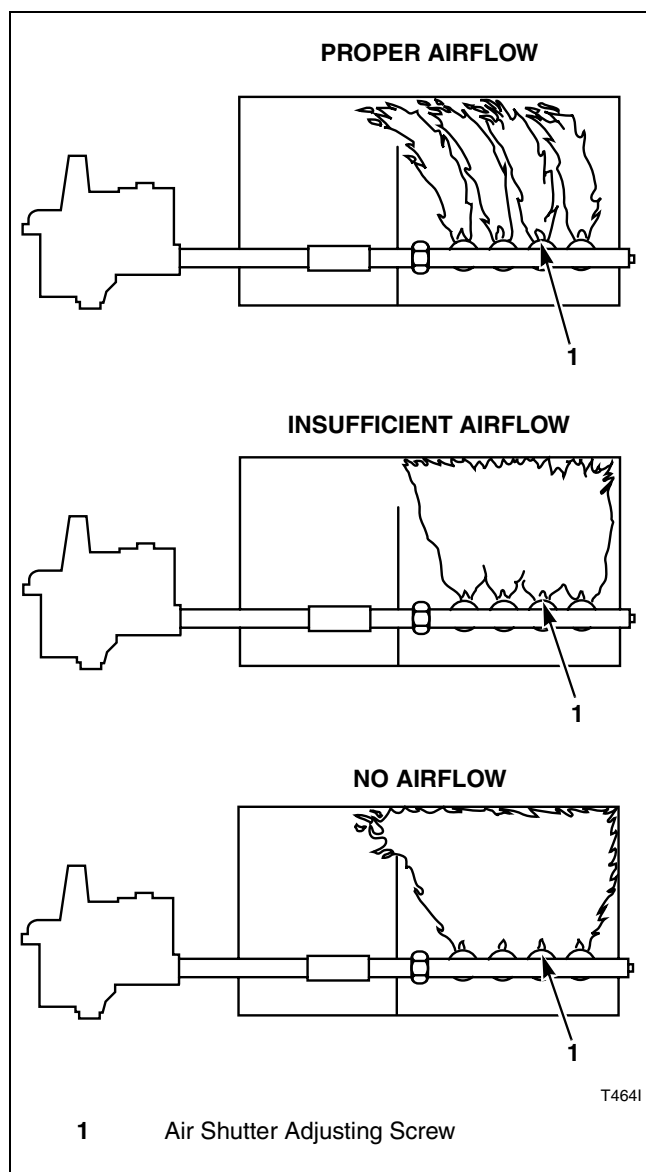

Figure 20
2. Start the tumbler and check the flame pattern. Correct air and gas mixture is indicated if the flame pattern is primarily blue, with small yellow tips, and bends to the left of the heater section (refer to *Figure 20*). Too little air is indicated if the flame is yellow, lazy and smoky. A flame pattern that flares to the right and left (refer to *Figure 20*) indicates no air is flowing through the tumbler.
3. To adjust the air shutter, loosen air inlet shutter adjusting screw (refer to *Figure 20*).
6. If the flame pattern is straight up (refer to *Figure 20*), insufficient primary air is flowing through the tumbler and airflow switch is improperly set.